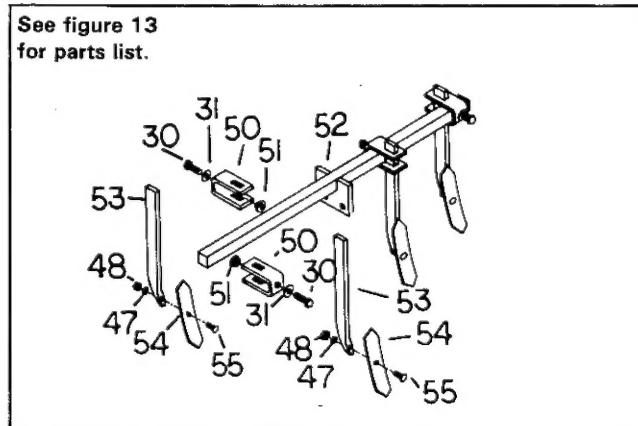

Figure 2A. Cultivator
1. Attach a shovel (54, figure 2A) to each of the five cultivator shanks (53) with $3/8 \times 1-1/2$ " plow bolts (55), $3/8$ " lockwashers (47) and $3/8$ " nuts (48).
2. Install four of the shank assemblies onto the cross bar (52) with the clamps (50), bolts (30), washers (31) and flange nuts (51). Be sure to install two of the shanks to the front of the crossbar, and two to the rear, as shown. After assembly, the nuts (5) will be trapped in clamp. The washers (31) will be loose. Their purpose is to keep the assembly together when the clamp is not installed on the cultivator.